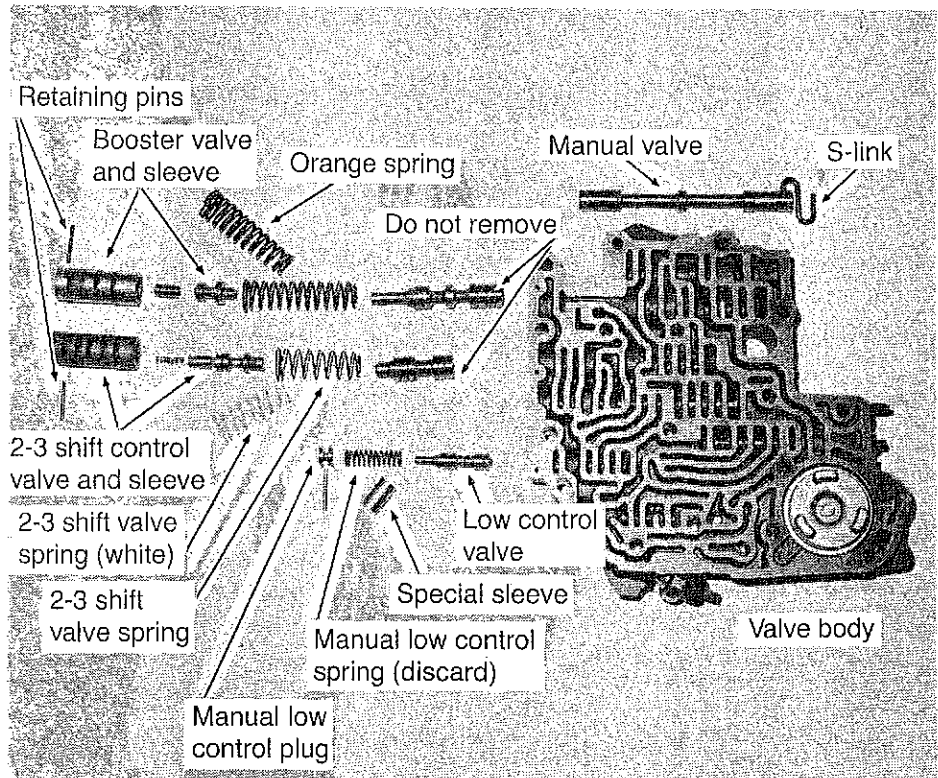

FIGURE 4
Step 5. Valve Body (See Fig. 4):